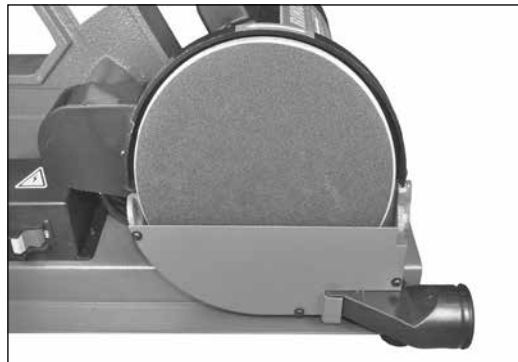

Figure 9
20. Attach the metal, lower Disc Safety Plate (#31) to the sanding disc base with the three M4 Phillips head Screws (#14) as shown above in figure 9.